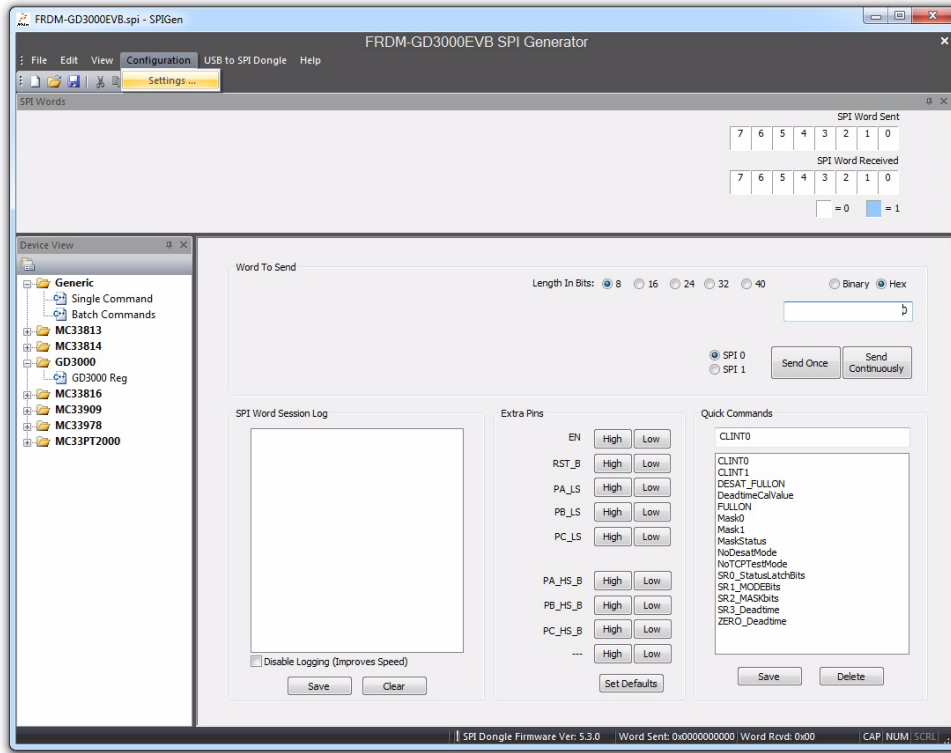
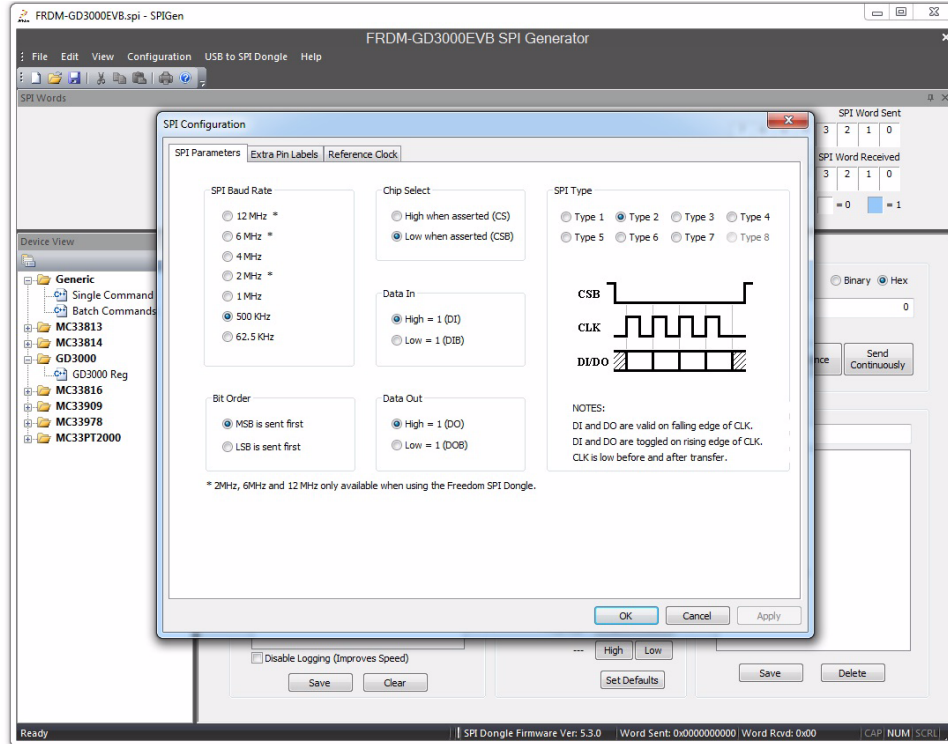

Figure 15. SPIGen settings
Figure 16. SPIGen SPI Type and other settings
- Under **Settings** (Figure 15), make sure the configuration of the SPI protocol is correct. The GD3000 uses **Type 2** (Figure 16).